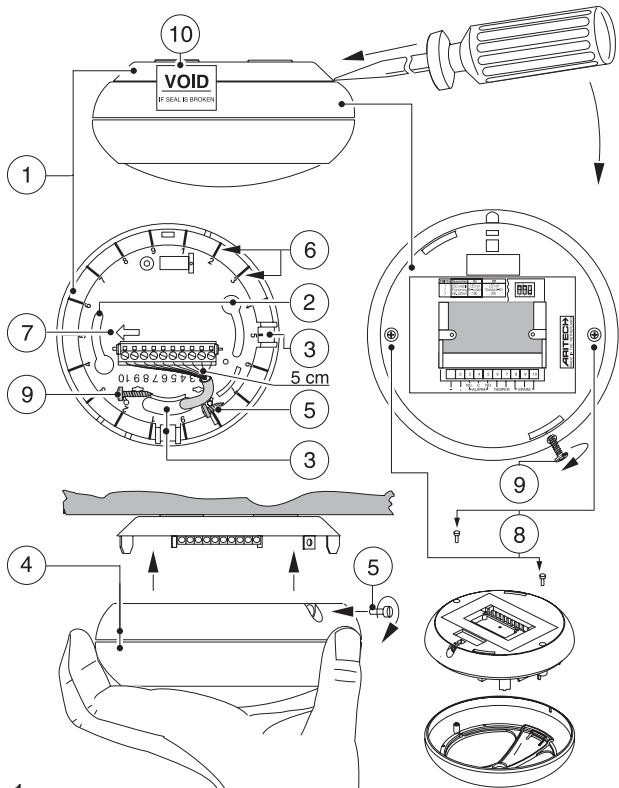

Fig. 1
## MOUNTING INSTRUCTIONS (Fig. 1)
**Note:** The arrow (Fig. 1 ⑦ and Fig. 2) indicates the centre curtain direction and the active direction when switch 4 "ON".
Undo screw ⑩ and open the sensor module ⑪ (Fig. 1). The two mirrors are accessible now.
## INSTRUCTIONS DE MONTAGE (Fig. 1)